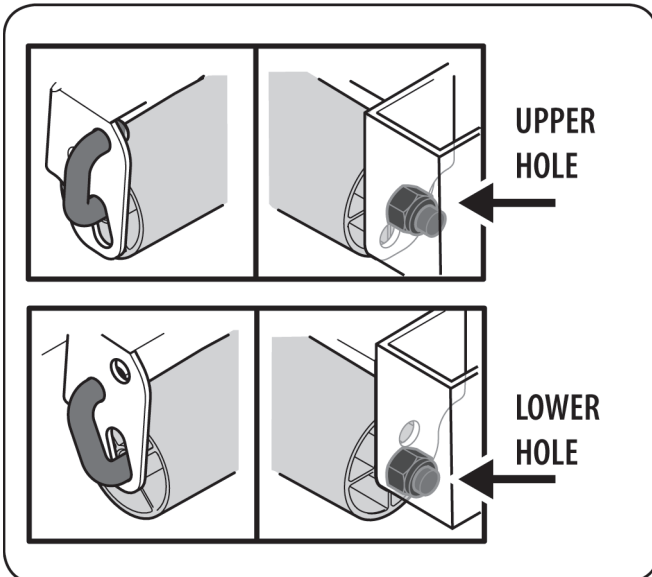

Figure 1-8
- The roller can be adjusted to two different heights. To change the height of the striper kit, remove the Locknut and slide the pin out far enough to move it into the desired height setting on the right side of the bracket. Secure the hooked end of the pin and install the lock nut to lock into position. See Figure 1-8.